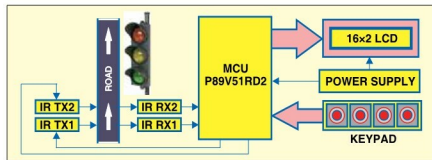

Fig. 1: Block diagram of the microcontroller-based intelligent traffic light system
The block diagram of the microcontroller-based intelligent traffic light system is shown in Fig. 1. The system has two infrared (IR) module pairs comprising IR transmitters and receivers (TX1-RX1 and TX2-RX2). The IR transmitters are placed on the roadside facing the IR receivers that are placed on the opposite side of the road. The two IR module pairs are